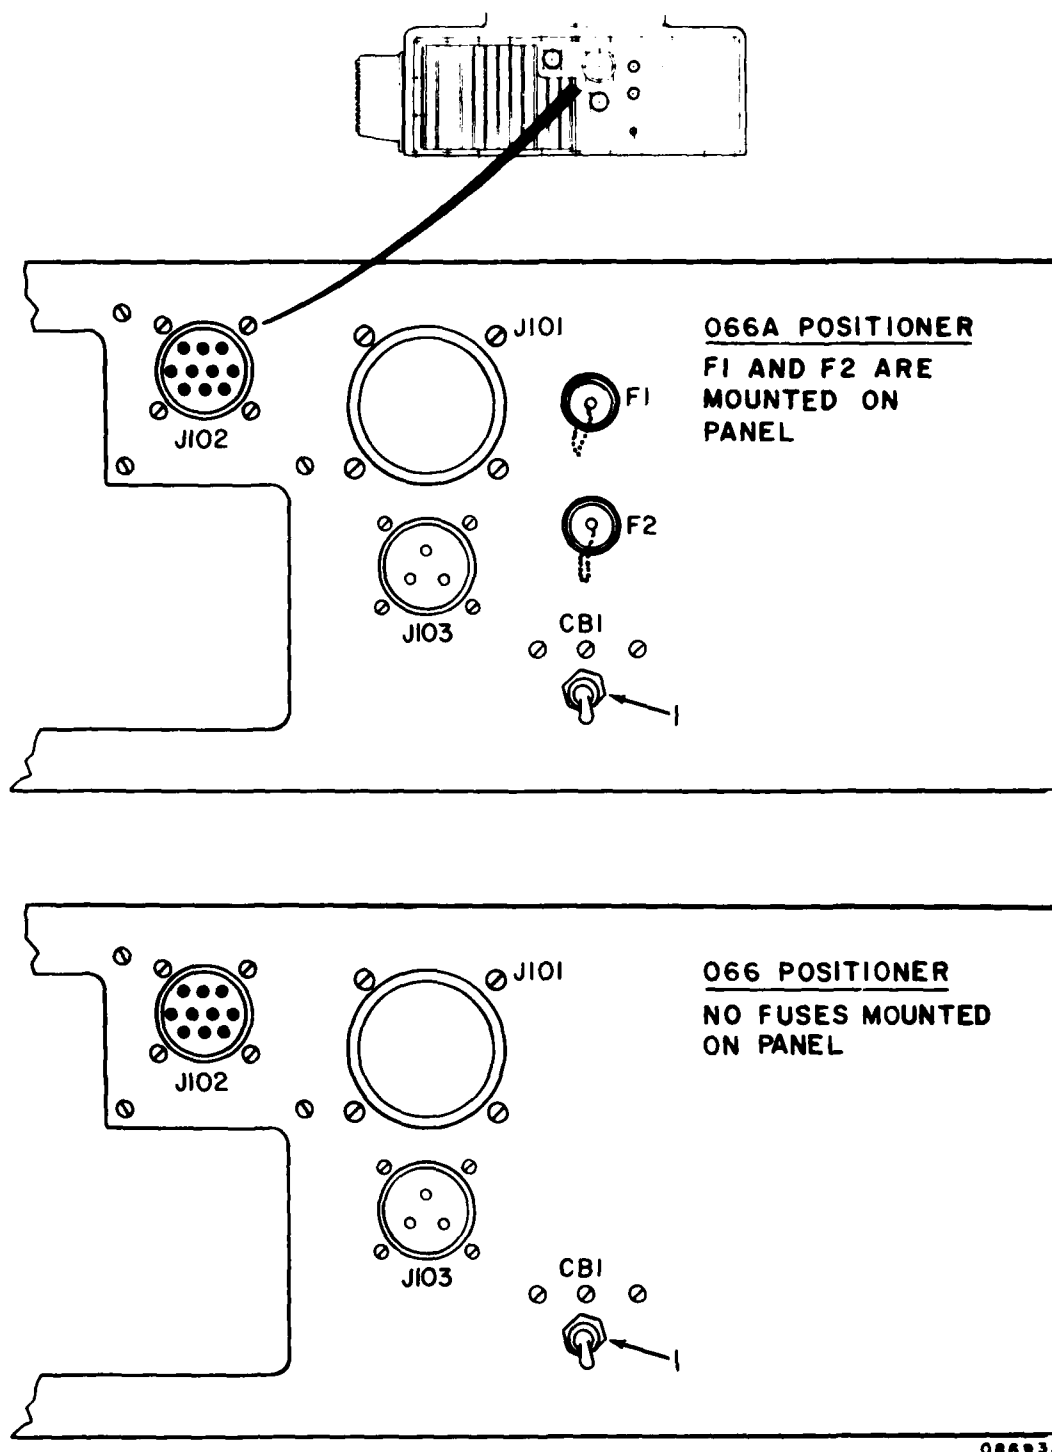

Figure 1.2. Searchlight Positioner, Model Identification
1.4. Instrument and Manual Identification. This manual covers the Model 066 positioner which can be distinguished from the Model 066A by reference to Figure 1.2.